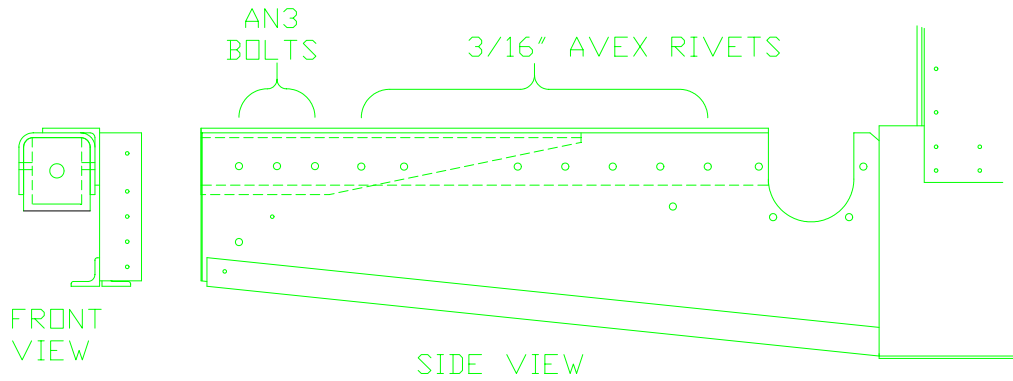

FIGURE 9
11) Mount the angle, FUS-341 and FUS-340 permanently. Figure 9. Do not mount the delrin bearing at this time..